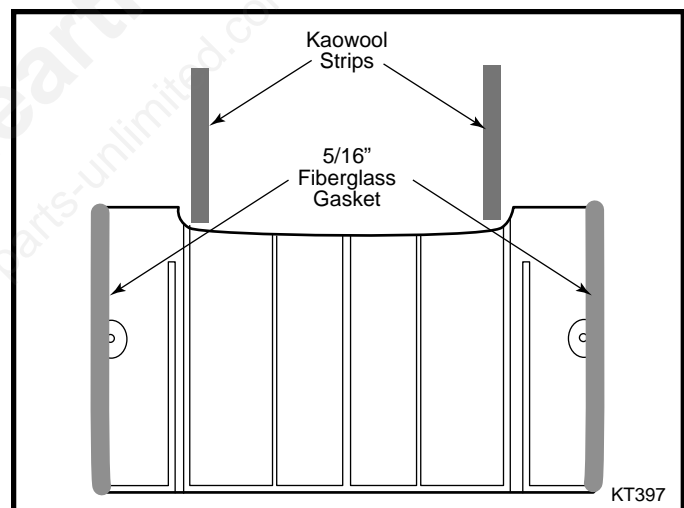

Fig. 1 Back view of lower fireback.
6. ~~Apply a bead of stove cement to the back left and right edges of the new lower fireback (Fig. 3, Item 14).~~ Apply a length of 5/16" rope gasket on the ends of the fireback as shown in Figure 1. Press-fit the remaining two (2) Kaowool strips on the back of the fireback. (Fig. 1) Apply cement in the groove in the stove bottom where the bottom edge of the lower fireback fits. Set the lower fireback in place in the stove, and fasten it with two (2) new bolts and washers from this kit. Since parts may have moved or expanded over time, you may need to enlarge the holes in the fireback to be able to mate them to the bolt holes in the inner walls of the stove.